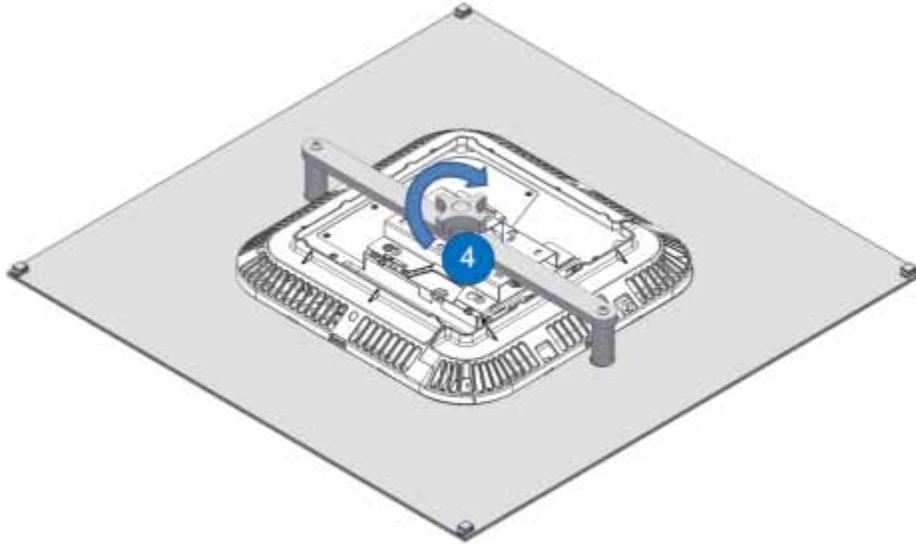

Figure 5-62. Securing Plate to Flat Bar
9. Tighten knob to secure Flat bar in place. Refer to Figure 5-62.